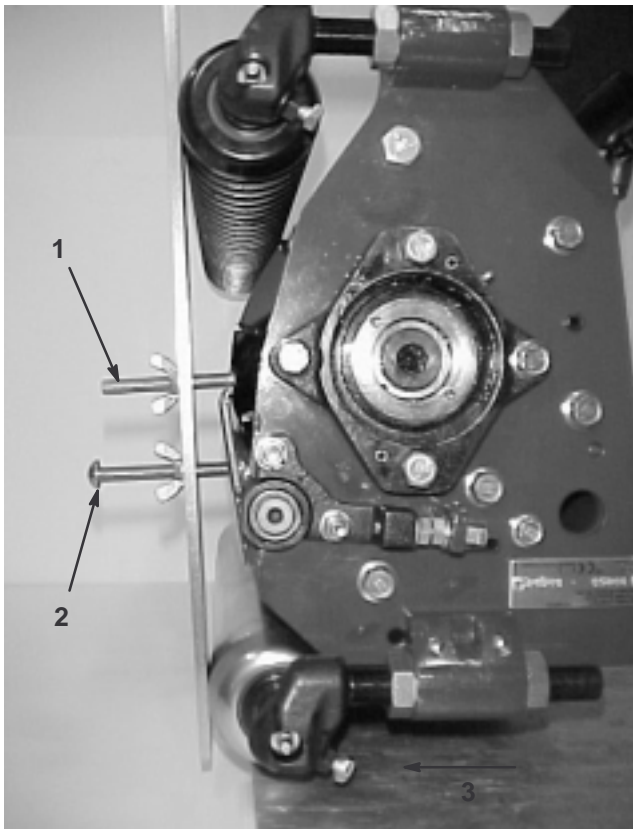

Figure 13
1. Rotate the cutting unit vertical and place the gauge bar across front and rear rollers (Fig. 13).
2. Adjust rear roller until it contacts the gauge bar on both sides (Fig. 13).